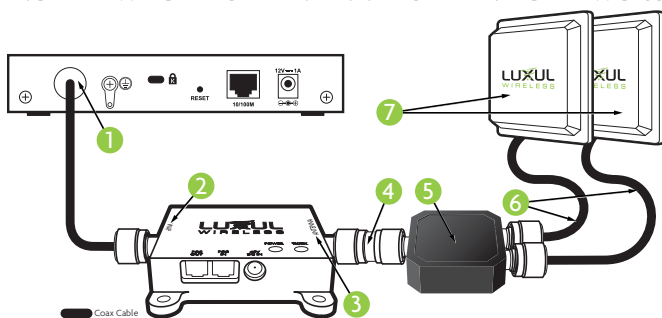

Figure 3
Using the supplied N-Male to RP-SMA-Male coax cable, connect the Shock-WAV Wi-Fi Signal Booster to your WG103's Antenna port . (Figure 3) ①. Be sure to connect the cable to the side of the Signal Booster labeled WAP ②. Next use the included barrel connector ④ to connect the splitter ④ to the side of the Signal Booster labeled Antenna ③. Using the two N-Male to N-Male cables ⑥ connect the Splitter to the two X-WAV XW-24-FP7 antennas ⑦.